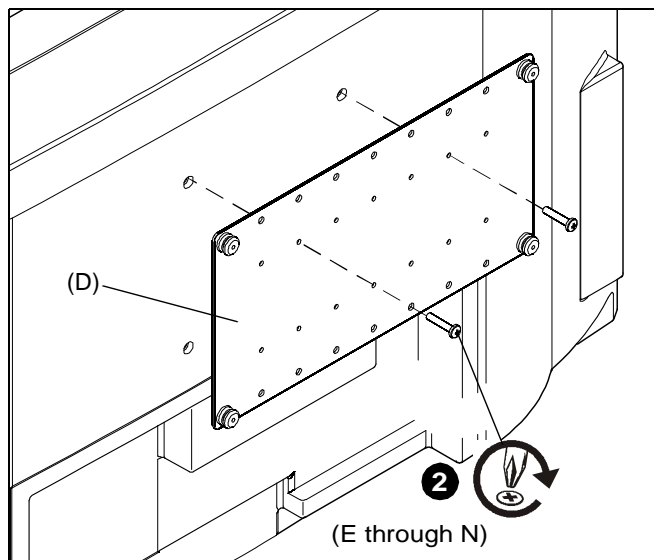

Figure 5
- Attach interface bracket (D) to display using appropriate screws (E through N). (See Figure 5)